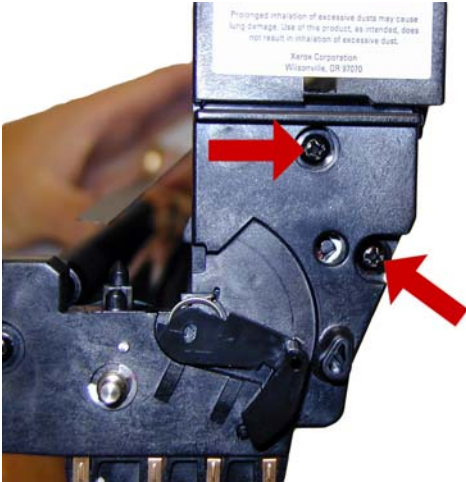

Figure 67
43) Install the three remaining black screws (2 on one side, one on the other). See **Figures 67 & 68**